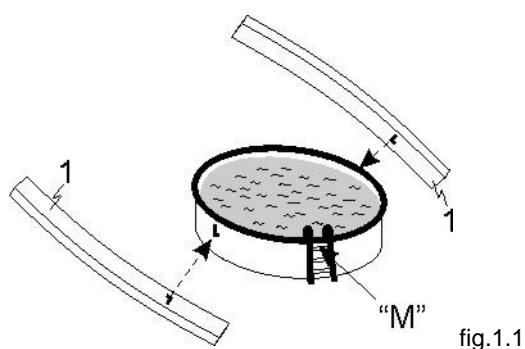

fig.1.1
Step 1: Marks on swimming pool (fig. 1.1 and 1.2)
Mark marks „L“ for „C“ profile according to the table starting from starting point „M“ in both directions. (fig. 1.1).
A shorter part of „C“ profile, measured from mark „L“ must point to the starting point „M“ (fig. 1.1).